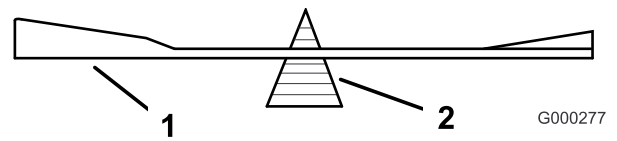

Figure 51
- Check the balance of the blade by putting it on a blade balancer (Figure 51). If the blade stays in a horizontal position, the blade is balanced and can be used. If the blade is not balanced, file some metal off the end of the sail area only (Figure 47). Repeat this procedure until the blade is balanced.